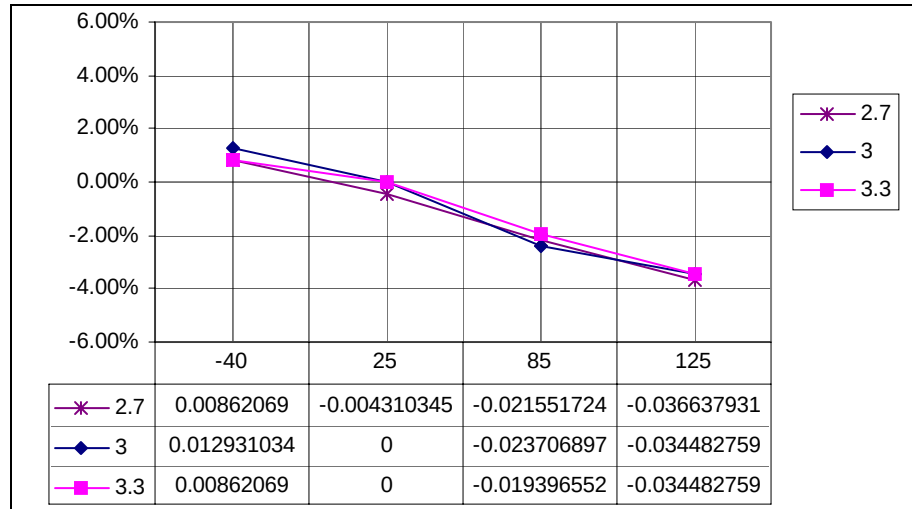
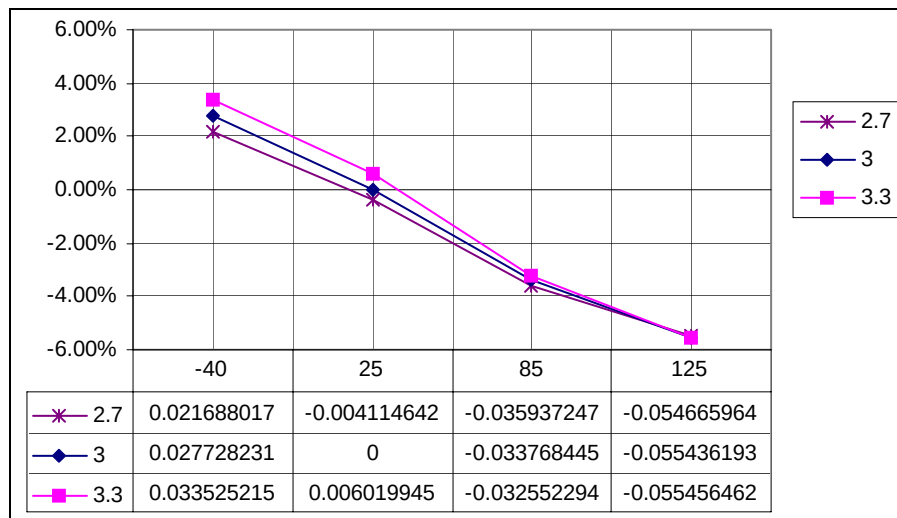
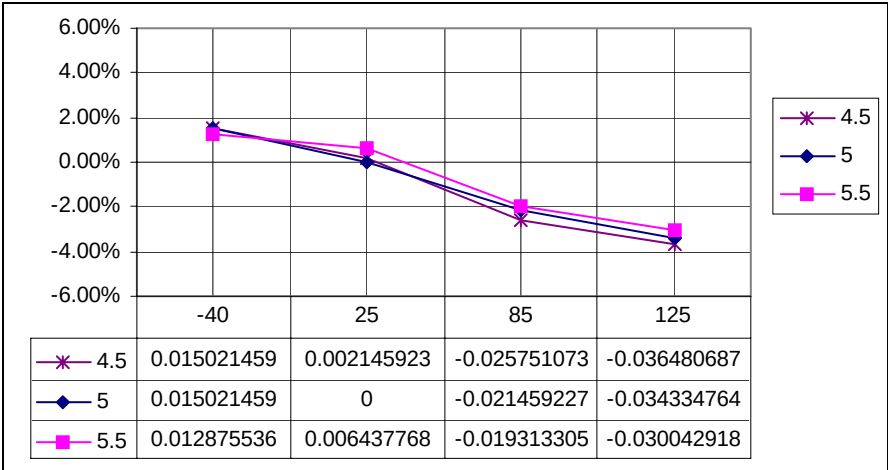
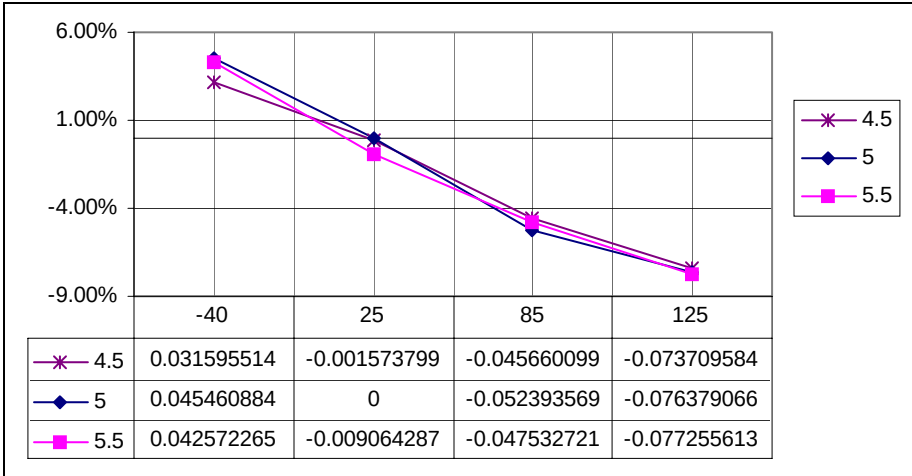

Figure 17-1. Example of Frequency Variation Across Temperature, Trimmed at Nominal 3 Volts, 25°C, and N = 1
Figure 17-2. Example of Frequency Variation Across Temperature, Trimmed at Nominal 3 Volts, 25°C, and N = 104
Figure 17-3. Example of Frequency Variation Across Temperature, Trimmed at Nominal 5 Volts, 25°C, and N = 1
Figure 17-4. Example of Frequency Variation Across Temperature, Trimmed at Nominal 5 Volts, 25°C, and N = 104
Figure 17-1 through Figure 17-4 illustrate typical performance. The formula for this variation of frequency is $(\text{measured}-\text{nominal})/\text{nominal}$. Figure 17-1 shows the variation in ICG frequency for a part trimmed at nominal voltage and temperature across V_{DD} and temperature for a 3-V application with multiply register (N) set to 1. Figure 17-2 shows 5 V.
Figure 17-3 and Figure 17-4 shows N set to 104, hex 68, which corresponds to an ICG frequency of 31.9 MHz or 7.9 MHz bus.